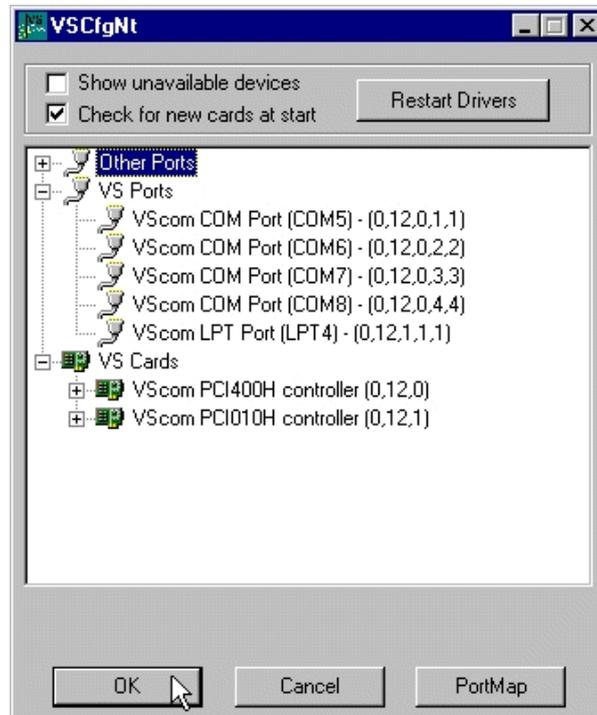

Figure 28: NT Device list
**Card and Port Configuration** Open the panel as shown in figure 28. Select a VScm controller under “VScm Cards” to gain access to the card properties. Or select an individual port under “VScm Ports” to change its settings. The options are explained in the general sections of this documentation.